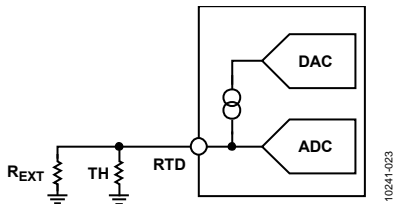

Figure 24. Temperature Measurement Using Thermistor
By connecting an external resistor ( $R_{\text{EXT}}$ ) in parallel with the NTC thermistor (TH), a constant current can be used to achieve linearization (see Figure 24).